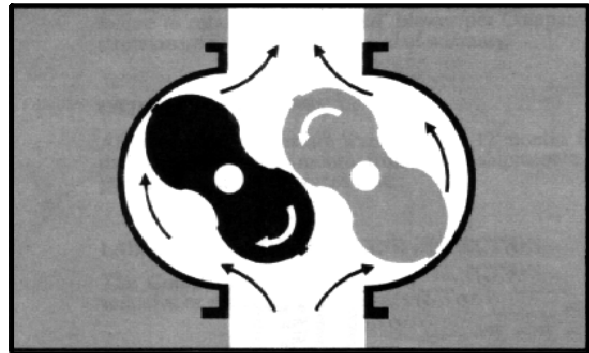

FIGURE 1 - OPERATING PRINCIPLES
**OPERATING PRINCIPLES** - The 8000 Series rotary blowers are the positive displacement type with two figure-eight shaped impellers rotating in opposite directions inside the casing. As each lobe of an impeller passes the blower inlet, it traps a quantity of air equal to exactly one-fourth the displacement of the blower. This entrapment air is forced around the case to the blower outlet. Timing gears accurately position the impellers in relation to each other to maintain the minute clearances so vital to the high volumetric efficiency of the rotary positive blower. See FIGURE 1.